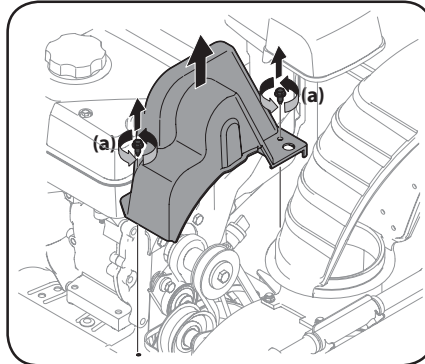

Figure 4-14
2. Remove plastic belt cover on front of engine by removing two self-tapping screws (a). See Figure 4-14.